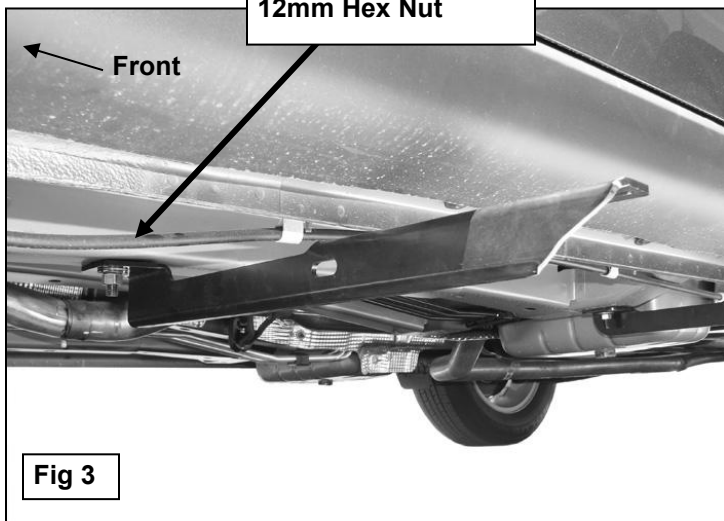

Fig 3
2. Starting toward the front of the driver/left side of the vehicle, locate the factory oval hole in the bottom of the inner frame channel, **(Figure 12)**. Insert (1) 12mm x 35mm Wide Bolt Plate into the factory hole, **(Figures 2A & 2B)**. Select the driver side Front Bracket. Attach the Bracket to the Bolt Plate with (1) 12mm Flat Washer, (1) 12mm Lock Washer and (1) 12mm Hex Nut, **(Figure 3)**. Do not tighten hardware at this time.